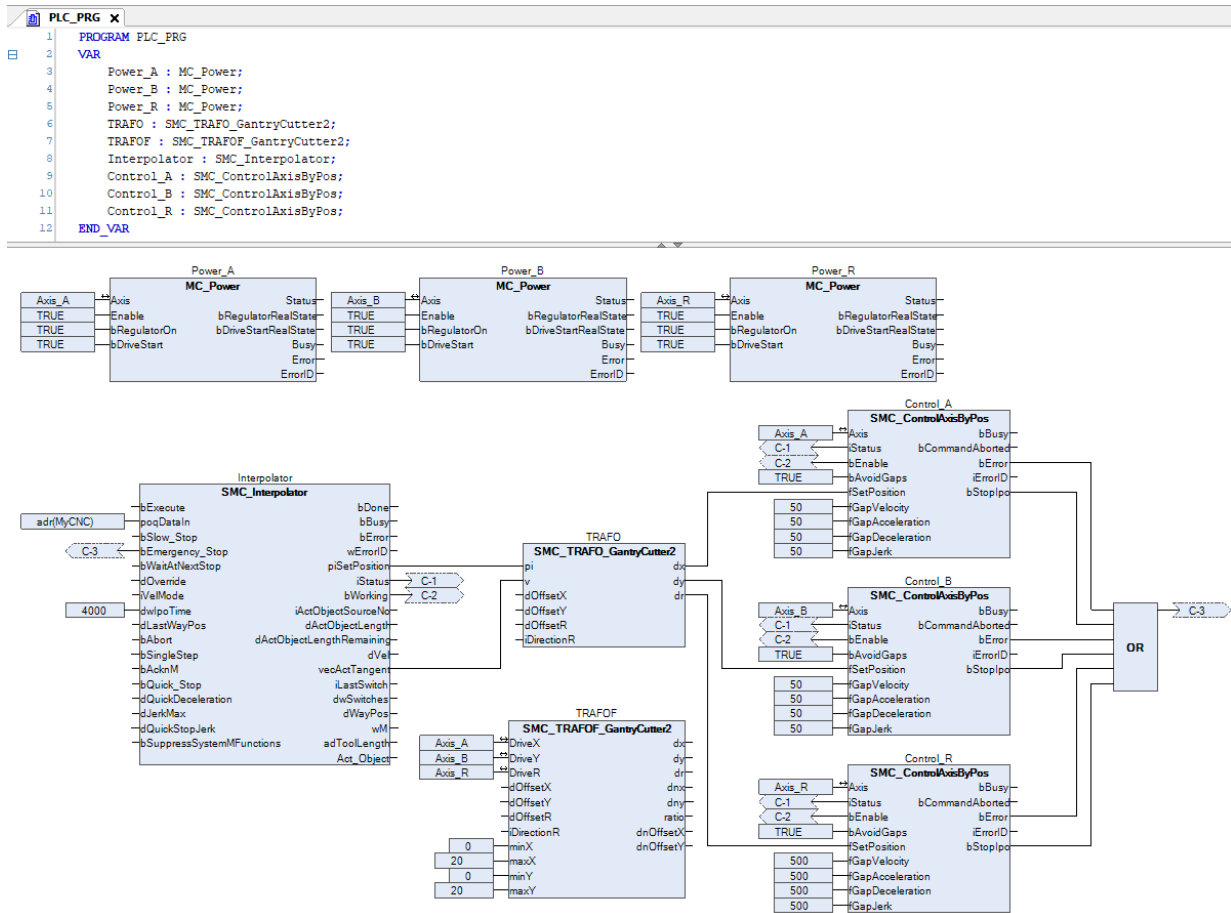

Figure 5.28: Program to execute CNC paths.
The default program for executing a CNC path controlling a 2D gantry system with a tangential axis is shown in Figure 5.28.
- Declare the function block instances and link the blocks as shown in Figure 5.28.